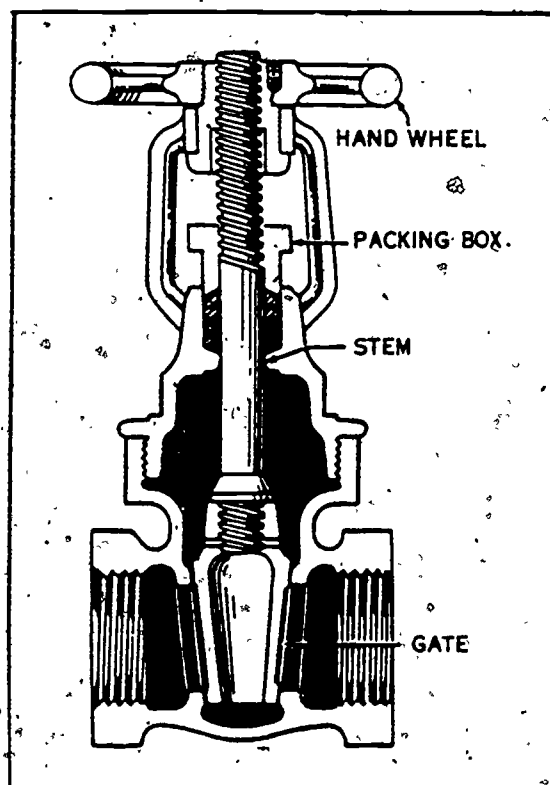

Figure 1-36. Rising stem gate valve.
**Gate valves.** A gate valve is one of the most used valves in a plumbing system. This valve is used either to shut off or regulate air or liquid systems. A diagram of a gate valve is shown in figure 1-34. Gate valves are designed in many different types, but they all work on the same principle. The two most commonly used gate valves are illustrated in figure 1-35 and 1-36. As you can see in the illustrations, the valve in figure 1-35 is one with a nonrising stem, whereas the valve in figure 1-36 is designed with a rising stem.